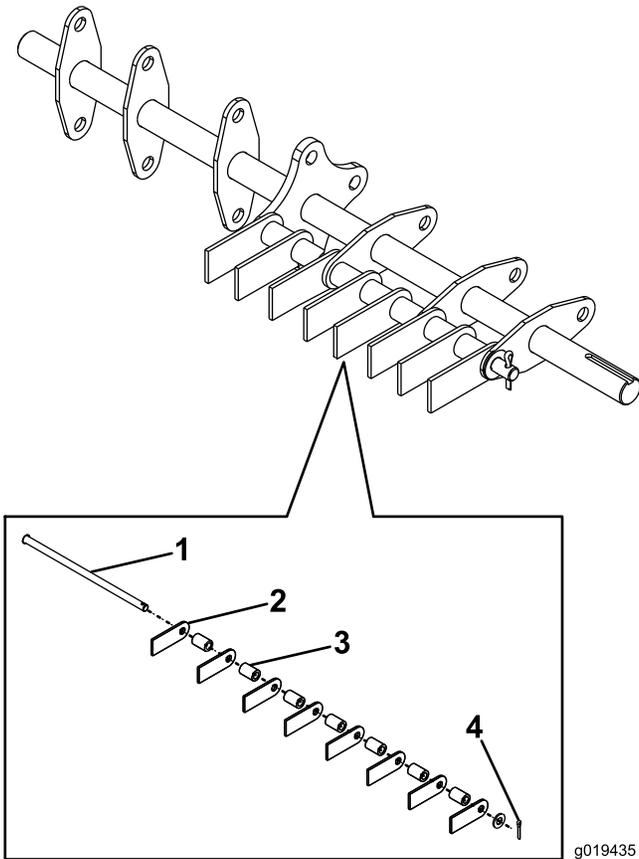

Figure 21
5. Remove the cotter pin from rod with the worn down flail (Figure 21).
6. Carefully pull out the rod to release the flails and spacers (Figure 21).